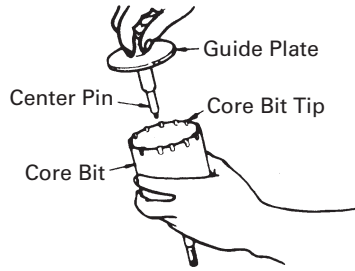

Fig. 17
- (4) Engage the guide plate with the core bit, and turn the guide plate to left or right so that it does not fall even if it faced downward. (Fig. 17)